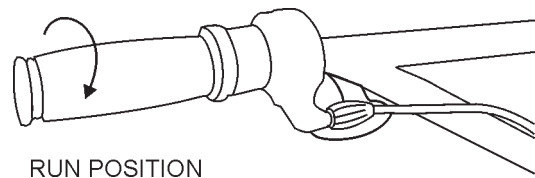

Figure 27. Throttle (Run Position)
- To begin troweling, rotate the throttle (Figure 27) toward the "RUN" position.